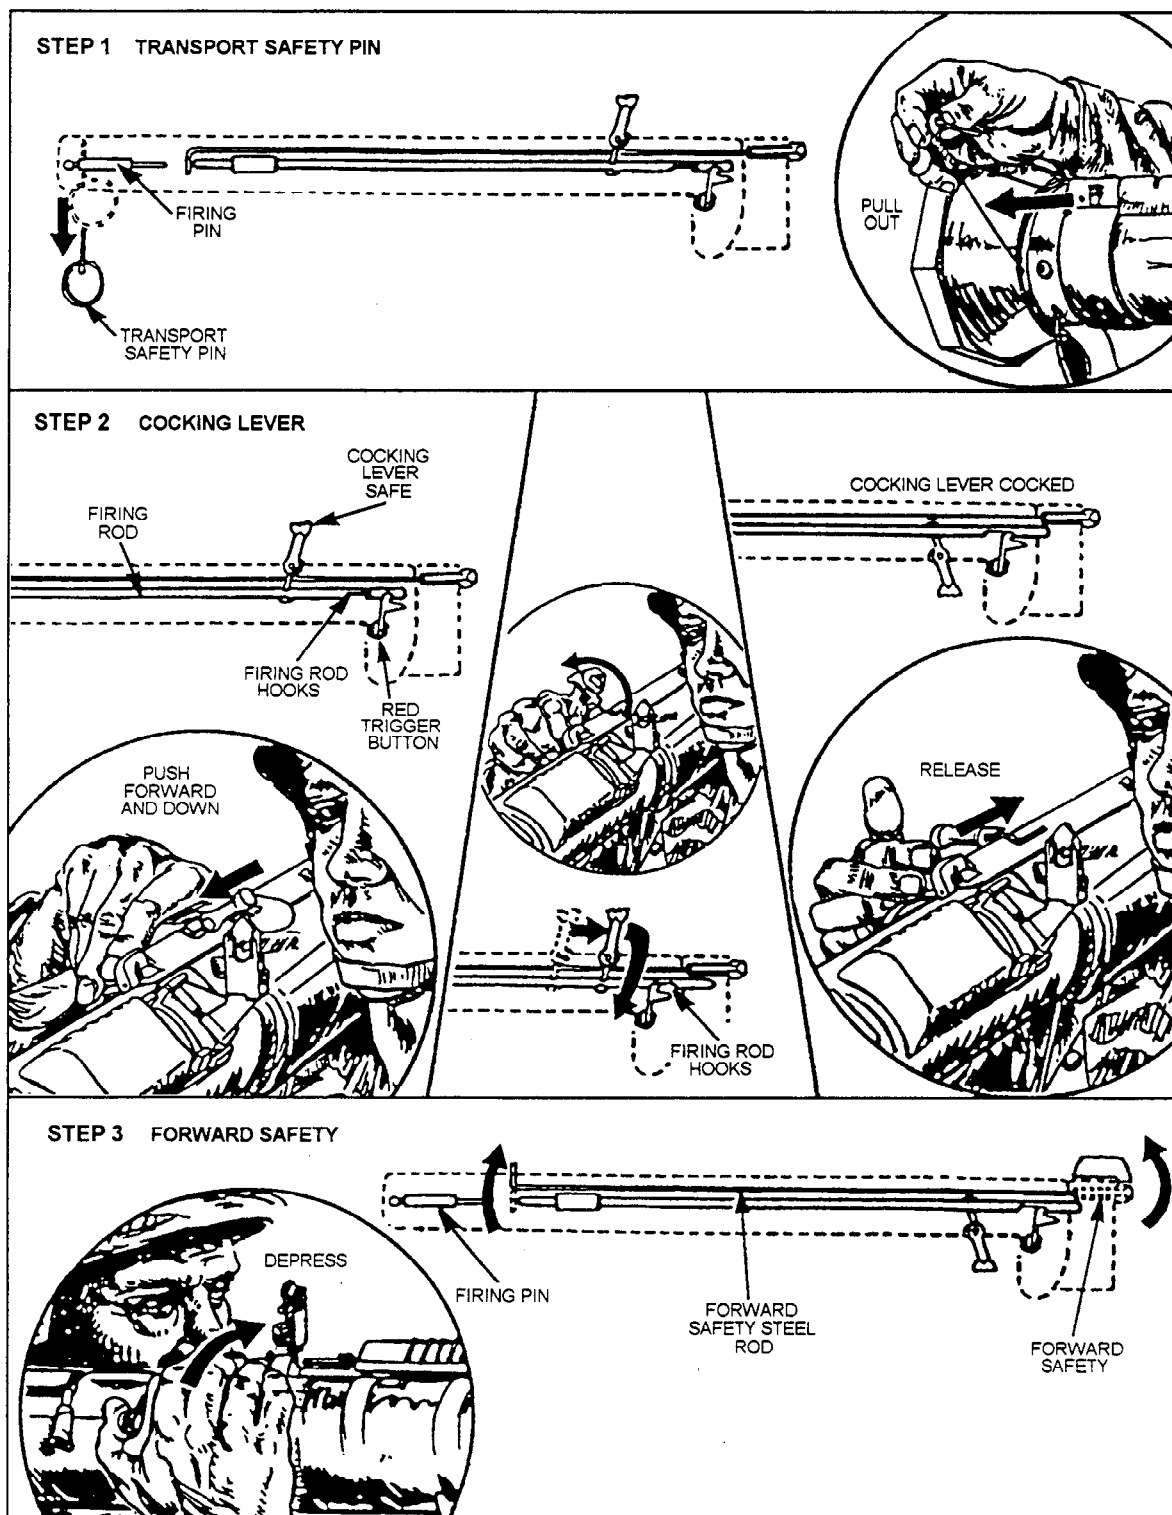

Figure 14-29.—Functioning of the firing mechanism.
1. Transport Safety Pin (Step 1, fig. 14-29). The transport safety pin blocks the movement of the firing pin and prevents it from striking the cartridge percussion cap (not shown). To disengage the transport safety pin, pull it out and release.
2. Cocking Lever (Step 2, fig. 14-29). The cocking lever is attached to the firing rod. When the cocking lever is in the SAFE position, there is no contact between the firing rod and the trigger. To cock the AT4, push the cocking lever forward and down with the thumb of your right hand. When the weapon is cocked, the firing rod
3. Forward Safety (Step 3, fig. 14-29). The forward safety is located on the forward end of the firing mechanism. The forward safety is connected to a steel rod that prevents the firing rod from striking the firing pin. The forward safety must be fully depressed and held down before the launcher can be fired.